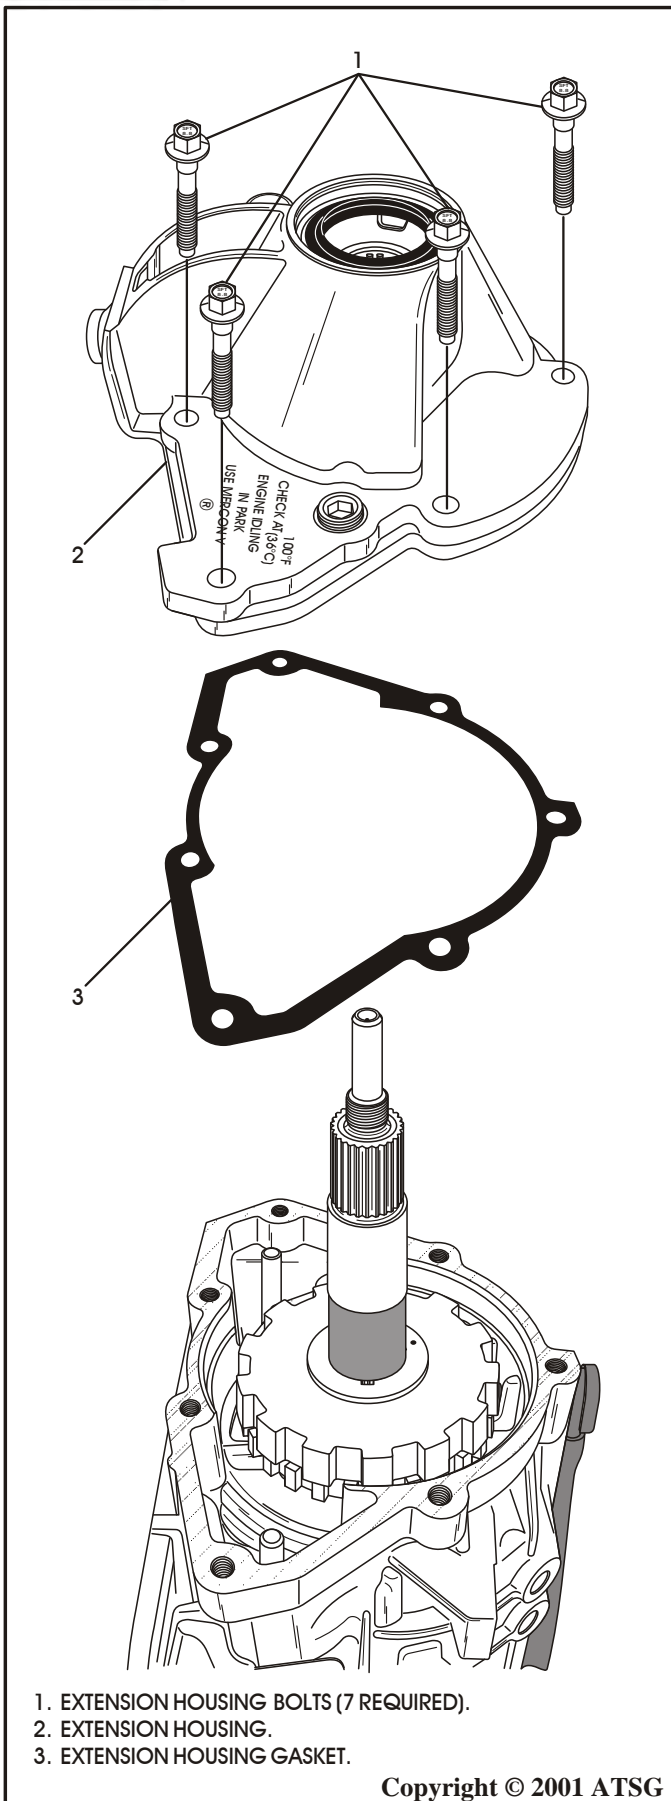

Figure 179
82. Rotate transmission so that rear is facing up, as shown in Figure 179.
83. Install new extension housing gasket onto case, as shown in Figure 179.
84. Install pre-assembled extension housing onto case, as shown in Figure 179, ensuring that the parking rod goes between the parking pawl and the case.
85. Install the seven (7) extension housing bolts, as shown in Figure 179, and torque to 39 Nm (29 ft.lb.).